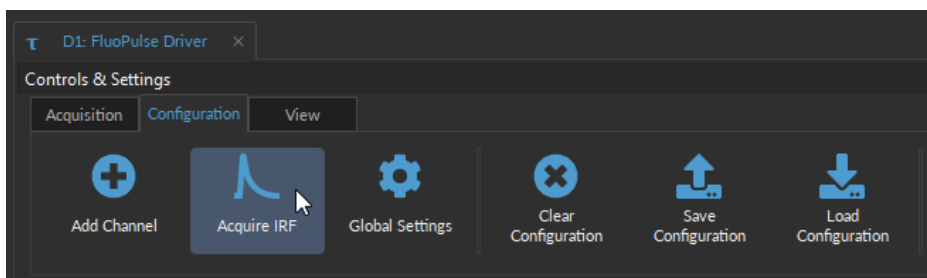

Figure 2.4: Acquire IRF button
3. Connect the fiber to the animal and select the *Acquire IRF* to measure the signal magnitude (as in Fig. 2.4).